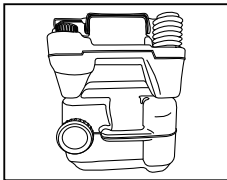

Figure 2
- ❖ Adult sized seat and lid are sturdy, thick wall construction, strong enough to stand on (figure 2), it can bear 130 kgs = 286 lbs